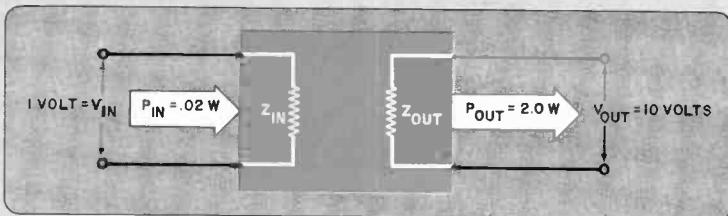

Fig. 3. Simple network illustrates voltage and power relationships.
Here's a simple problem worked out both ways. What are the input and output power, gain factor, and decibel gain for the network shown in Fig. 3? First, we calculate signal power using the equation $P = E^2/Z$: $P_I = 1^2/50 = 1/50 = 0.02 \text{ watt}$ and $P_O = 10^2/50 = 100/50 = 2.0 \text{ watts}$. Then $K = P_O/P_I = 2.0/0.02 = 100$ and $G(\text{dB}) = 10 \log_{10} (K) = 10 \log_{10} (100) = 10$ (2) or 20 dB. In the alternative solution, we use the voltage ratio expression: $G(\text{dB}) = 20 \log_{10} (V_O/V_I) = 20 \log_{10} (10/1) = 20 \log_{10} (10) = (20) (1) = 20 \text{ dB}$. Table III lists common voltage ratios and their resulting power gains in decibels—if input and output impedances are equal.